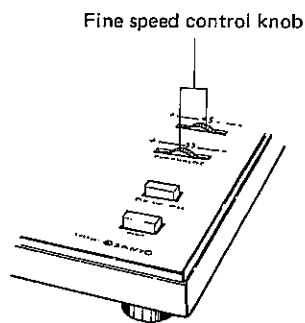

Fig. 10
5. Speed Adjustment: Check the stroboscope. Unless the stroboscope seems to stop, turn the fine speed control knob to adjust the rotating speed of turntable accurately (Fig. 10).